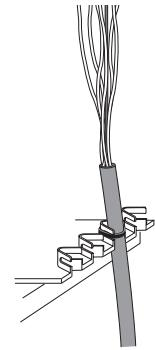

Figure 4
6. Attach cable end to the FOSC Work Stand using a tie wrap as shown. (Figure 4)
5. Attach the cable to the FOSC Work Stand with a tie wrap. (See Figure 4)